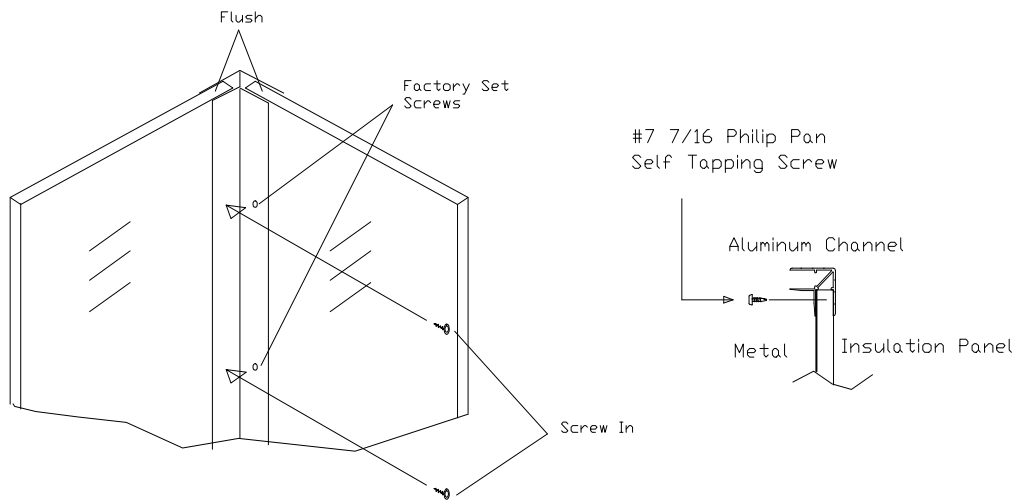

Fig.1
A.) Insert leading edge on panels into U-channel of corresponding panel making sure it is vertically and horizontally flush. Make sure it slides all the way in before securing to channel with metal tap screws. (Fig.1)